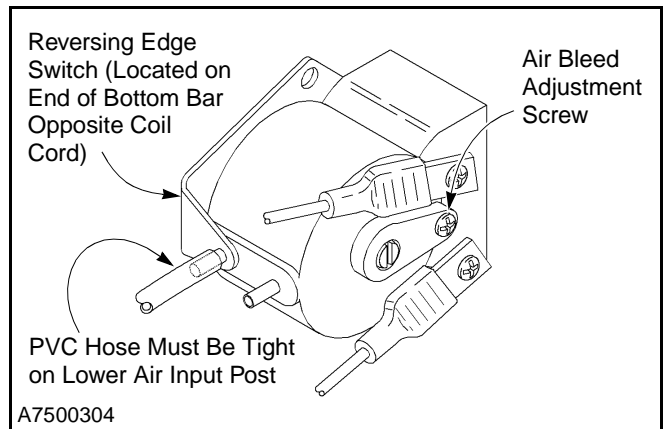

Figure 70
3. Make sure the PVC hose is tight on the lower air input post to prevent air leakage and to ensure the hose will not vibrate off the post. Also make sure the hose is not kinked. (See Figure 70.)